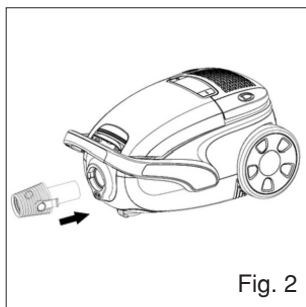

Fig. 2
- Insert the end of the suction hose (Fig. 2) in the intake opening of the vacuum cleaner, until it locks with an audible click.